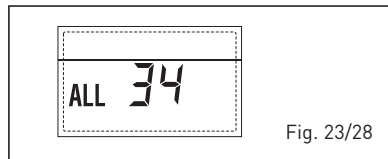

Fig. 23/28
- RS-485 AND RS-485 COMMUNICATION ANOMALY "ALL 35" (fig. 23/29)